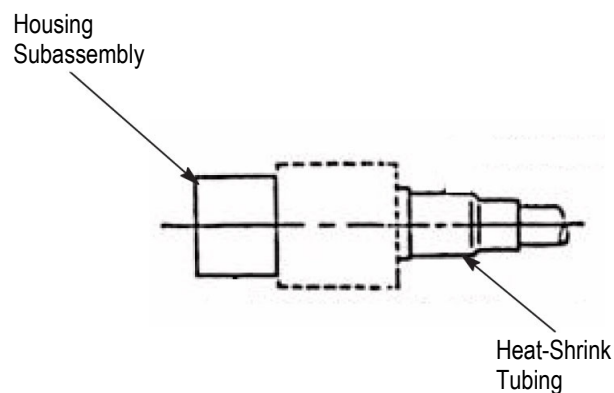

Figure 5
1. Position the heat-shrink tubing over the cable as shown in Figure 5.